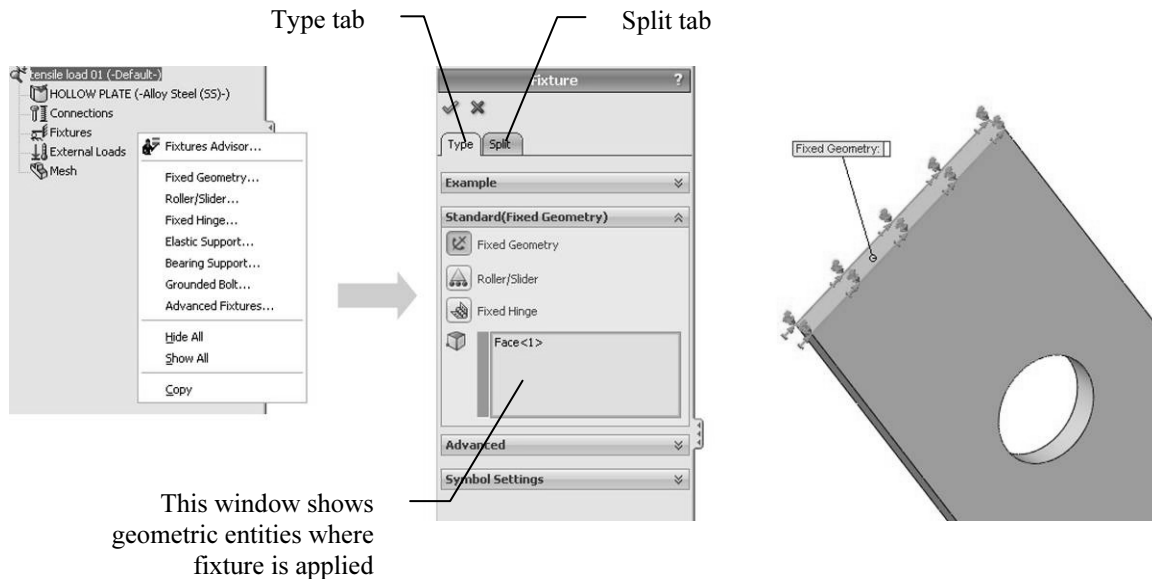

Figure 2-9: Pop-up menu for the Fixtures folder and Fixture definition window
Having defined the material, we now move to defining the loads and restraints. To display the pop-up menu that lists the options available for defining restraints, right-click the *Fixtures* folder in the *tensile load 01* study (figure 2-9).
- ❑ Right-clicking the *Fixtures* folder and selecting **Hide All** or **Show All** in the pop-up menu shown in figure 2-9 , or